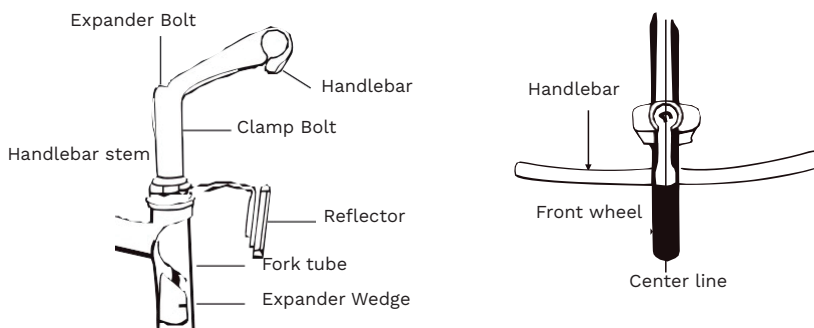

fig. 10 Handlebar and Handlebar Stem Assembly
2. Align the handlebar stem with the front wheel (see fig.10). Tighten securely the expender bolt with an adjustable wrench. Note: Some models require a 6mm allen key. (Tightening torque: 18N.m or 14 footlbs.torque)
6. Be sure that your handlebar and stem assemblies are properly tight before riding. The handlebar should not rotate in the stem. When you straddle and grip the front wheel between your knees, the handlebar should not be able to turn when you apply pressure horizontally. Refer to (fig. 10)